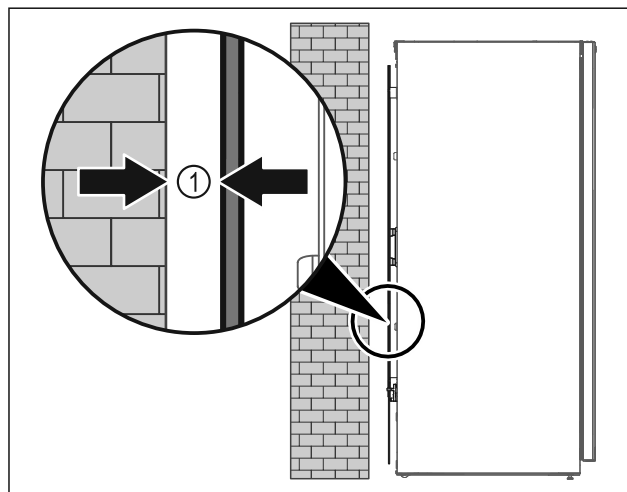

Fig. 10
- Set up the appliance either free-standing or directly against a wall at a minimum distance of 5 mm Fig. 10 (1).